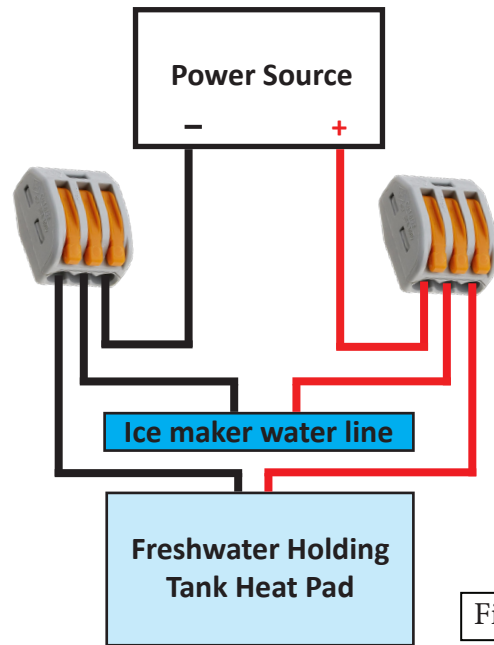

Figure 17
20. Locate heating element wires in the blue sheathing of the newly installed ice maker water line. Using two (2) Wago 3-position connectors, wire the water line heating element to the closest fresh water tank heat pad wiring (Figure 17). Wrap the Wago connectors in electrical tape to hold the levers in place.